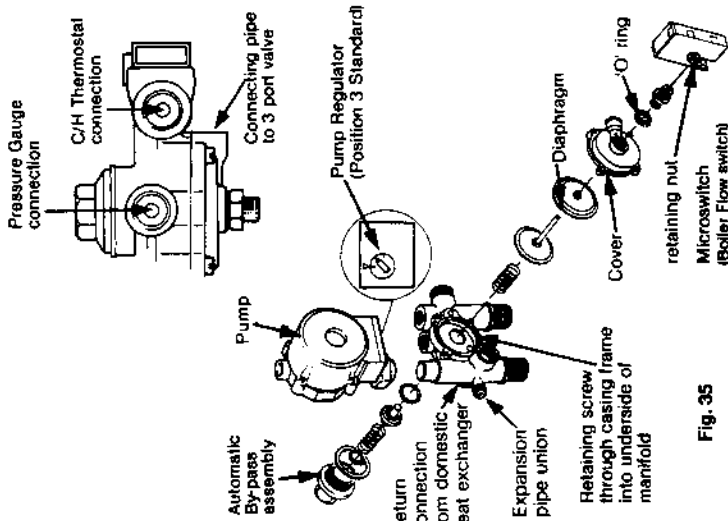

Fig. 35
- Refer to fig. 35
- Refer to fig. 35 for location of components.